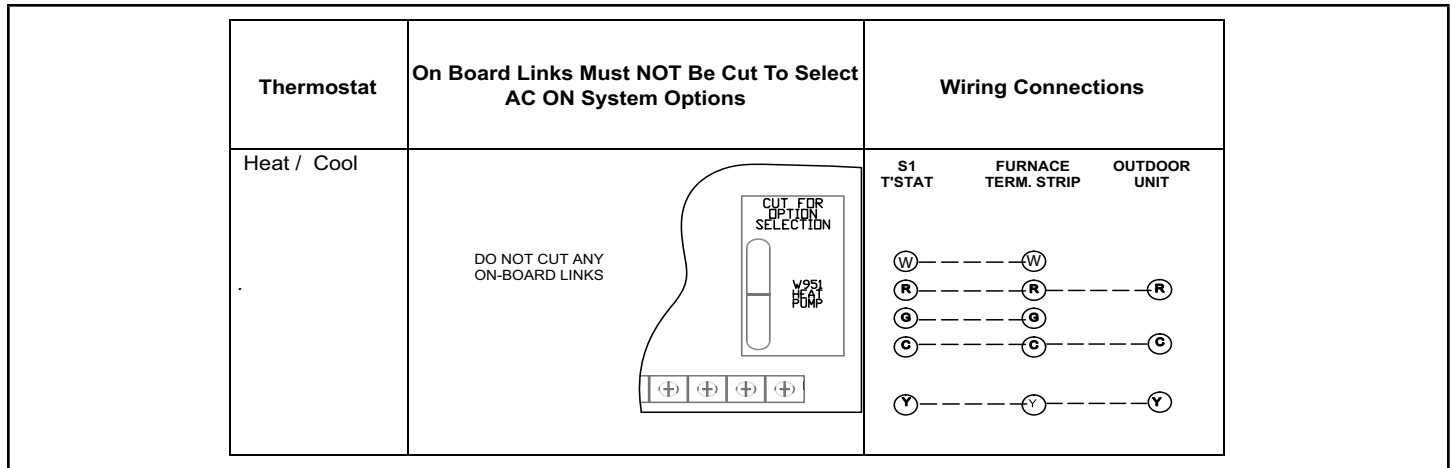
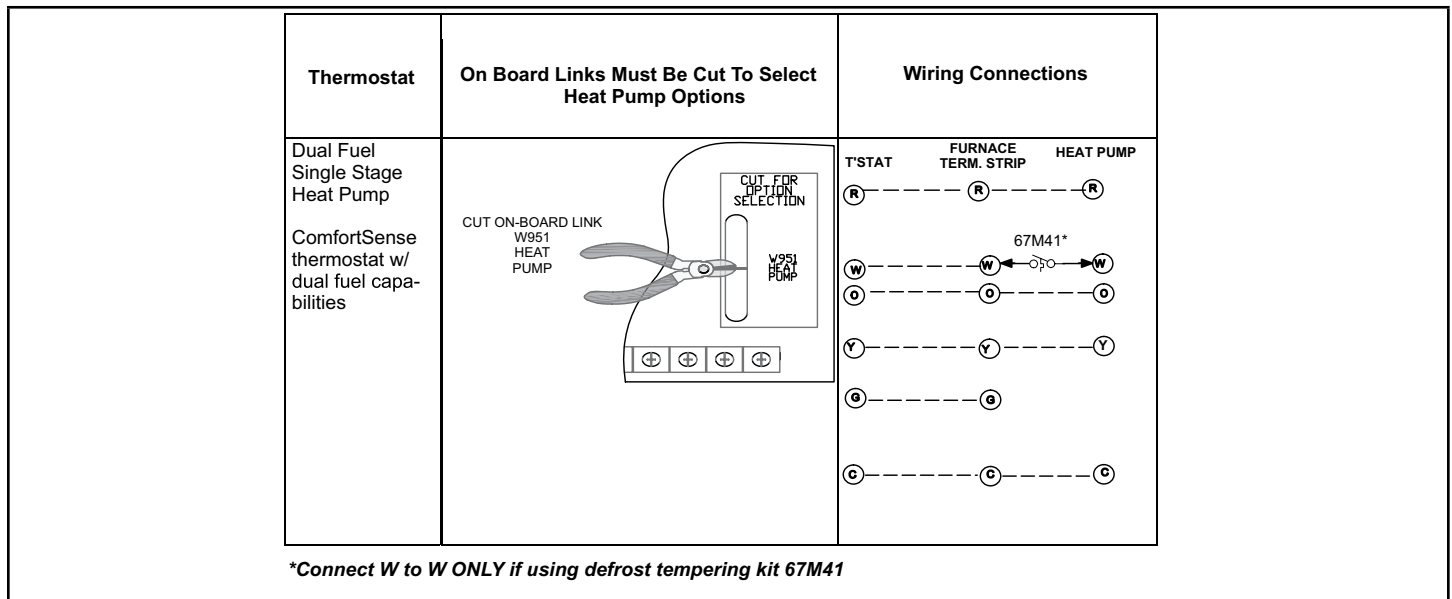
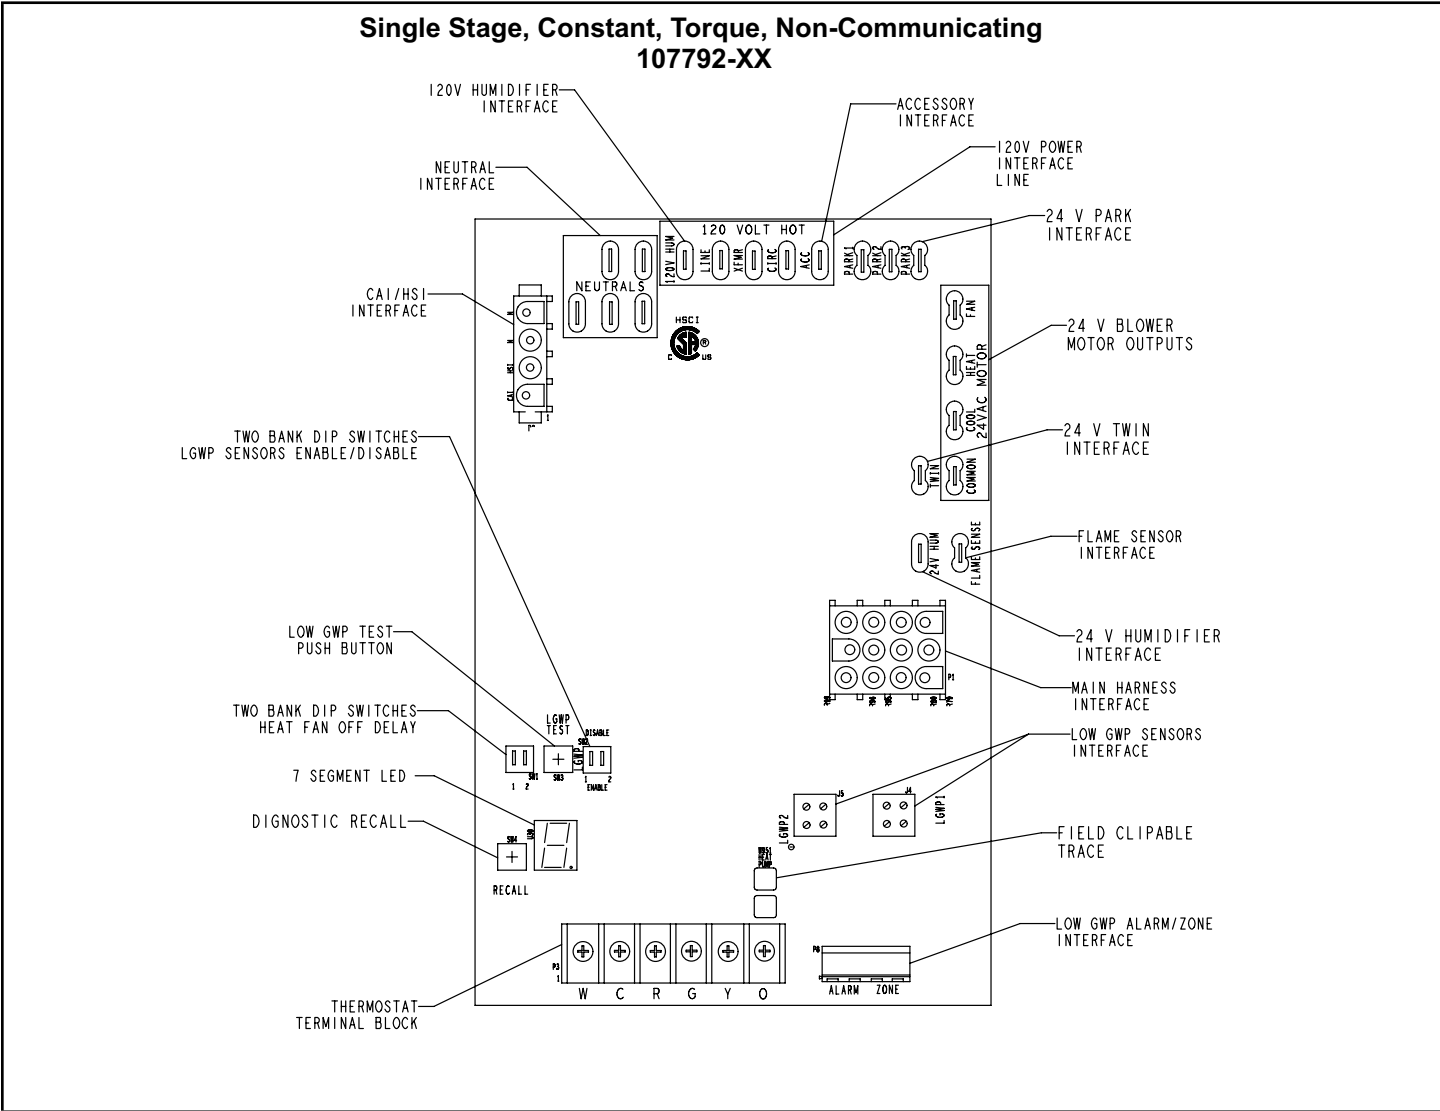

FIGURE 4
FIGURE 5
FIGURE 7
4. Ignition Control 107792-XX (FIGURE 7)
ON BOARD LINKS (FIGURE 4 and FIGURE 5) and DIAGNOSTIC PUSH BUTTON (FIGURE 7)
The hot surface ignition control system consisting of an integrated control (FIGURE 7 with control terminal designations in TABLE 1, TABLE 2, TABLE 3 sensor and ignitor (FIGURE 8). The integrated control and ignitor work in combination to ensure furnace ignition and ignitor durability. The integrated control, controls all major furnace operations. The integrated control also features a RED LED